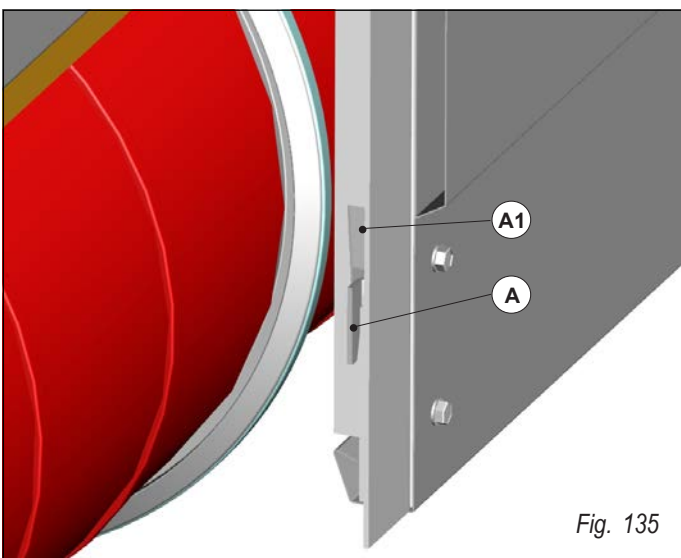

Fig. 135
A close up of the **tooth-slot** connection between the two radiant belt units is shown in fig. 135. The lateral flashing of the first unit has been removed for better viewing. The connection of the two radiant belt units by means of fastening the two frames with screw (D) and nut (E) is shown in fig. 136. The upper insulation in the two radiant belt units has been removed for better viewing.